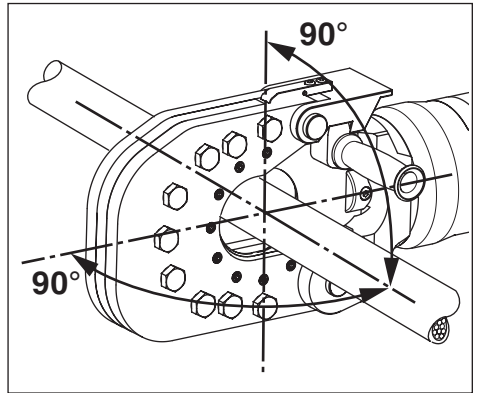

**Figure 8, Piston and Blade in Home Position (fully retracted)**
Always be sure that the piston and moving blade are in the fully retracted "home" position before placing any material inside the cutting head. See Figure 8.
2. Be sure that the piston is in the "home" (fully retracted) position. See Figure 8.
1. Start the pump. Move the piston to the “home” position (fully retracted). See Figure 8.